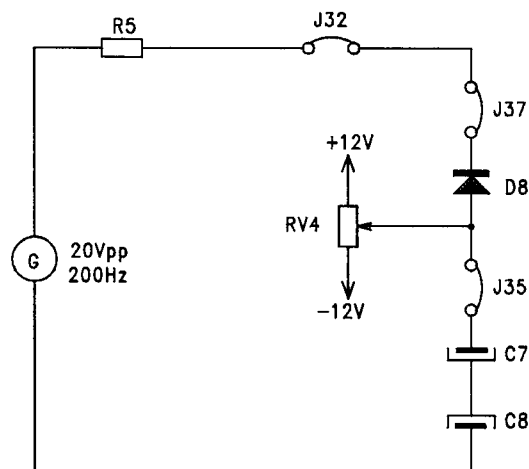

fig.B07.8
- connect the capacitors C7 and C8, with J35, as in figure B07.8.